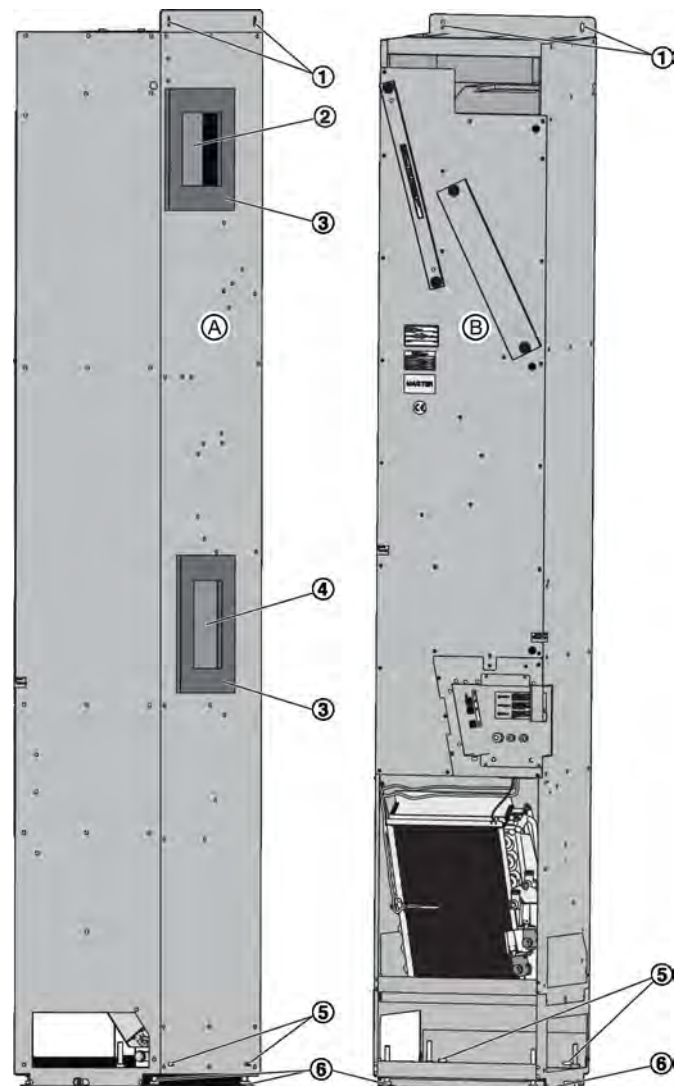

Fig. 8: Installation by example of SCHOOLAIR-V
1. ▶ Place the unit in such a way that the wall side (Fig. 8 /A) faces the wall. The openings for the air (Fig. 8 /2 and Fig. 8 /4) must be aligned with the prepared openings in the external wall; adjust the feet if necessary.
2. ▶ Use suitable screws (\varnothing 6 mm) for the provided fixing holes (Fig. 8 /1 and Fig. 8 /5) to fix the unit to the external wall.